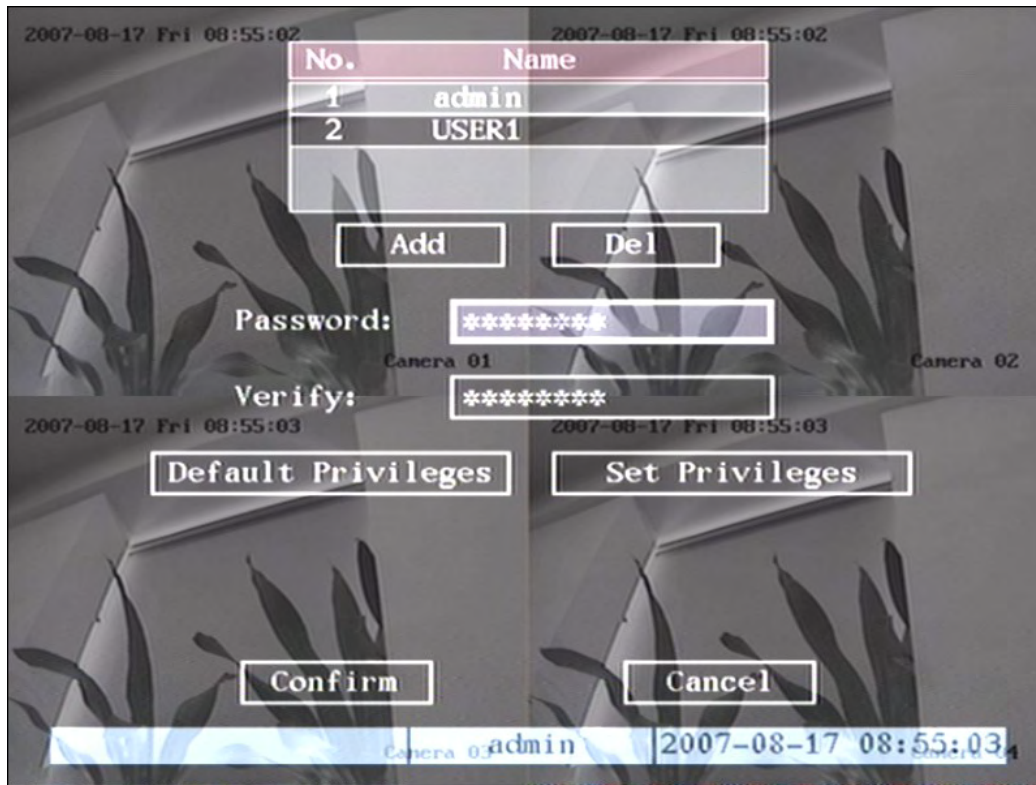

Fig 4.6 Modify users' password
Step 2: Select the objective user name by using **【↑】** , **【↓】** then move the “Active Frame” to “Password” icon by using **【→】** / **【←】** keys. As fig 4.6 shows.